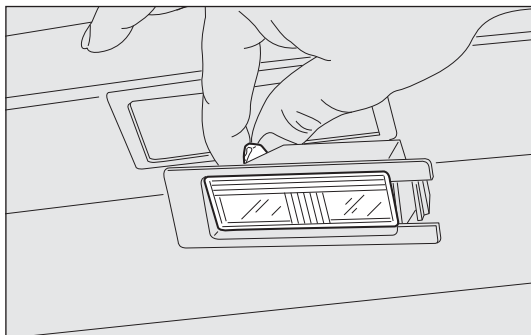

fig. 179
- ☐ change the bulb fig.179 by releasing it from the side contacts and making sure the new bulb is correctly fastened between these contacts;